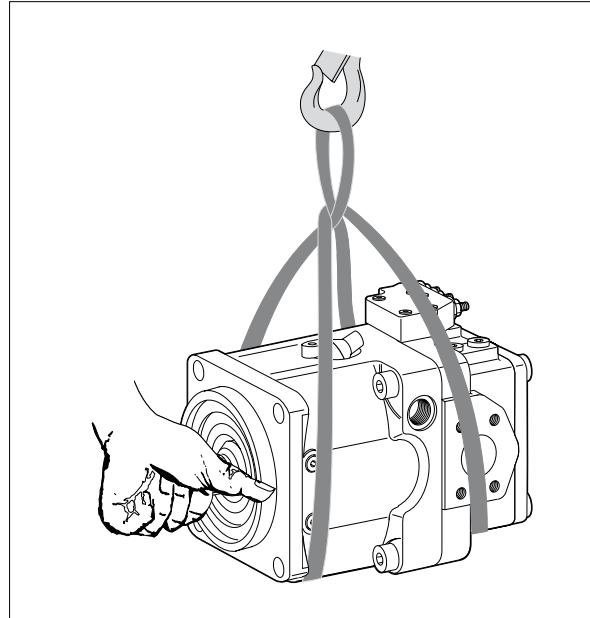

Fig. 6: Transport with lifting strap
- ▶ Place the lifting strap around the axial piston unit in such a way that it passes over neither the attachment parts (e.g. valves) nor such that the axial piston unit is hung from attachment parts (see Fig. 6).